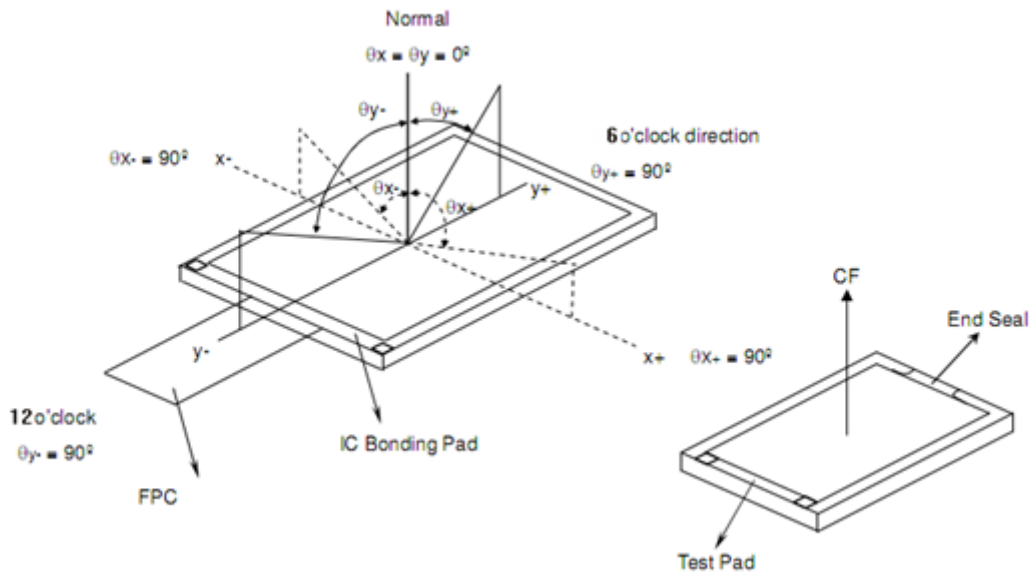

Figure 3.Definition of viewing angle
6. The electro-optical response time measurements shall be made as FIGURE 3 shown in Appendix by switching the “data” input signal ON and OFF. The times needed for the luminance to change from 10% to 90% is T_r , and 90% to 10% is T_d